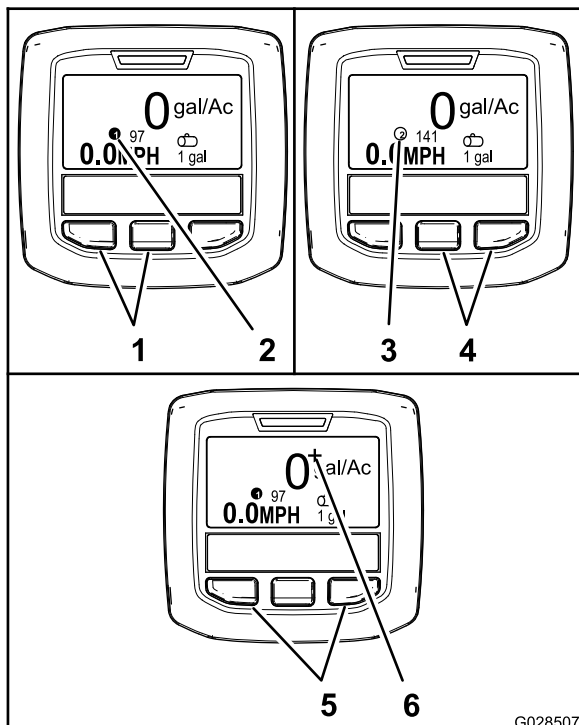

Figure 65
- To select application rate 1, press the left 2 buttons of the InfoCenter (Figure 65).
**Note:** An icon ① appears.
- To select application rate 2 (application rate), press the right 2 buttons (Figure 65).
**Note:** An icon ② appears.
- To temporarily apply a boost application rate, press and hold the 2 outer buttons (Figure 65).